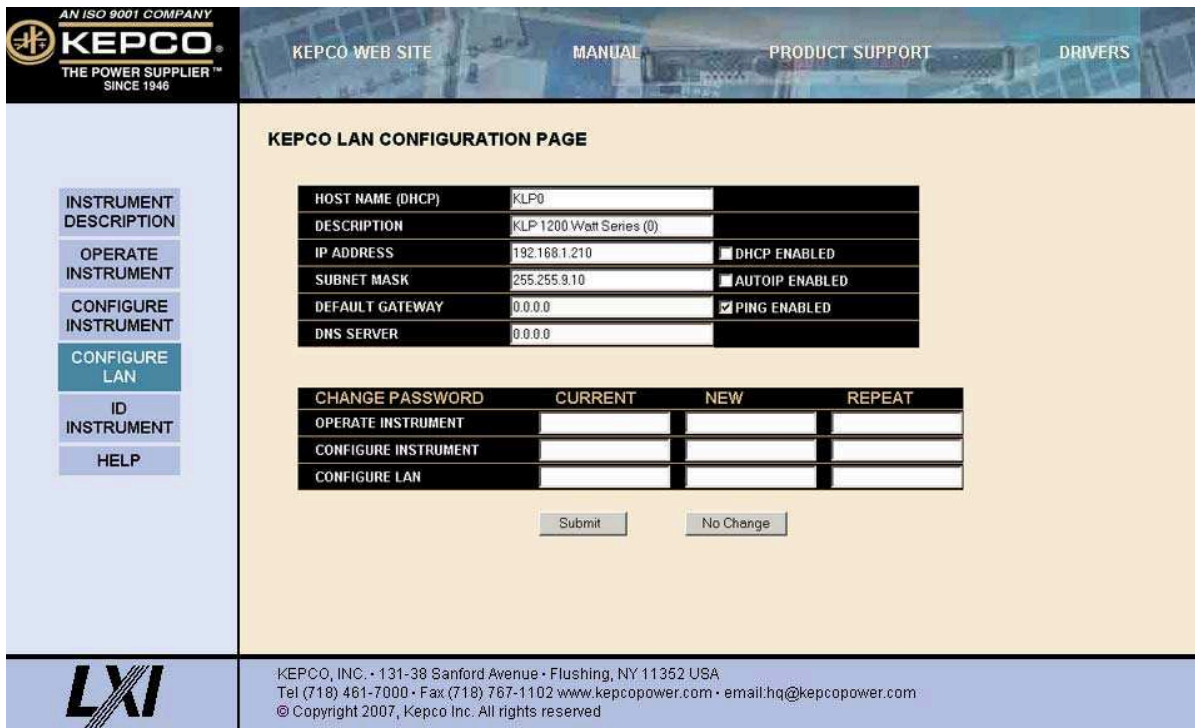

FIGURE 3-6. WEB INTERFACE CONFIGURE LAN PAGE
Click on CONFIGURE LAN at the left to view the LAN Configuration page (Figure 3-6). The parameters that can be configured from this page are Host Name (DHCP), Description, IP Address, Subnet Mask address, Default Gateway Address, and DNS Server Address. Separate checkboxes allow enabling of DHCP, AUTOIP and PING. Descriptions of these terms can be viewed by clicking the HELP box at the left. If a fault condition exists, an alert window indicates the type of fault. Click OK to close the window; the SUBMIT button is disabled until the fault is corrected.
- The CONFIGURE LAN password restricts the ability to change the LAN configuration parameters shown on the CONFIGURE LAN page (Figure 3-6.)